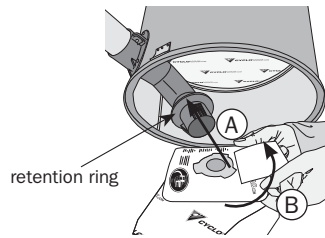

figure 16
4. Ensure adequate sealing by inserting bag as far as retention ring (**figure 16 - A**). Rotate bag 20° (**figure 16 - B**) to ensure tabs on bag adaptor are no longer aligned with the slots in the bag collar.